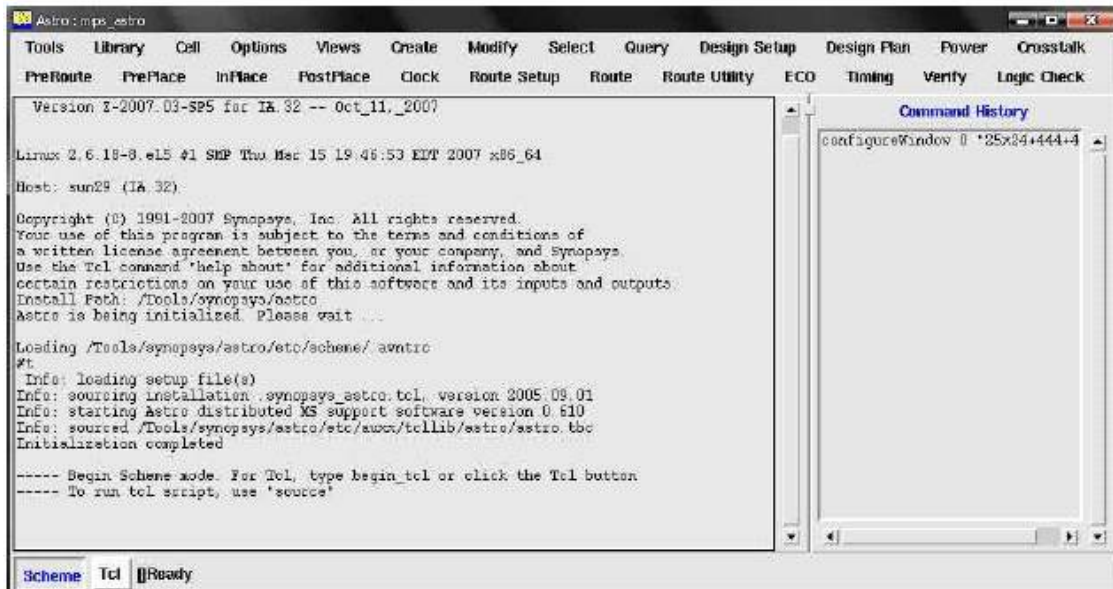

Figure 1. Normal Astro run screen
9. If ASTRO is running normally, you will see the screen shown in Figure 1. If you see a warning about the license, you can close the Astro window and fix the license problem.